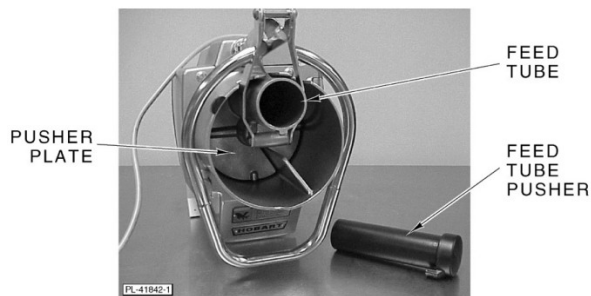

Fig. 10
The feed tube (Fig. 10) processes long and thin items, such as carrots, cucumbers, celery and scallions. It can also be loaded with small, odd-shaped items, such as mushrooms, shallots and garlic cloves. The feed tube pusher (Fig. 10) sits in the feed tube when not in use, doubling as a cover. Removing the feed tube pusher does
2. Turn the feed tube pusher to unlatch it; remove the pusher (Fig. 10).